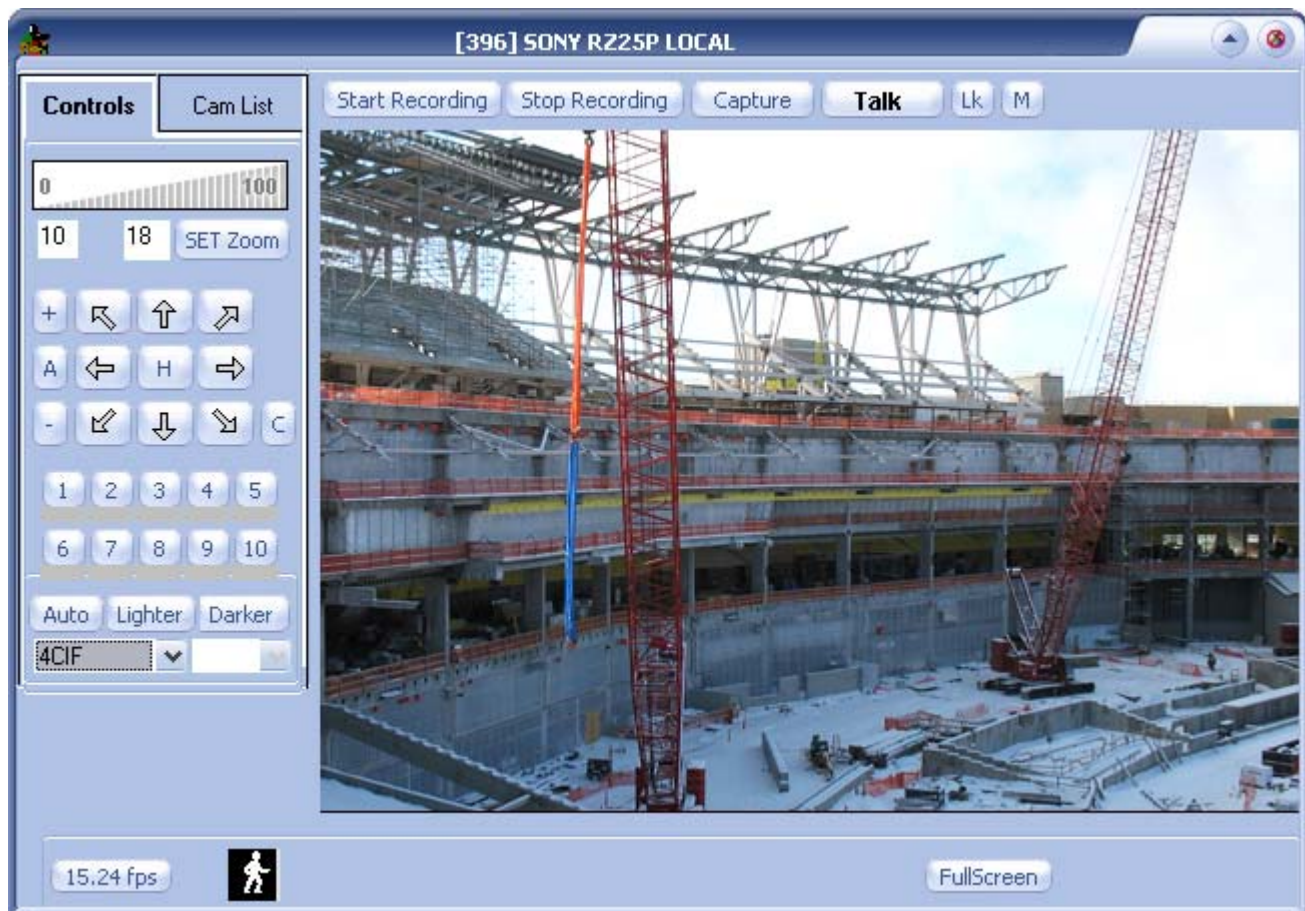

Fig 56. DETEXI Client — Camera Live View
- ✓ Relay **Action** buttons will be available on the DETEXI Client's camera live view allowing for external devices (*relays*) to be triggered (Fig 56).